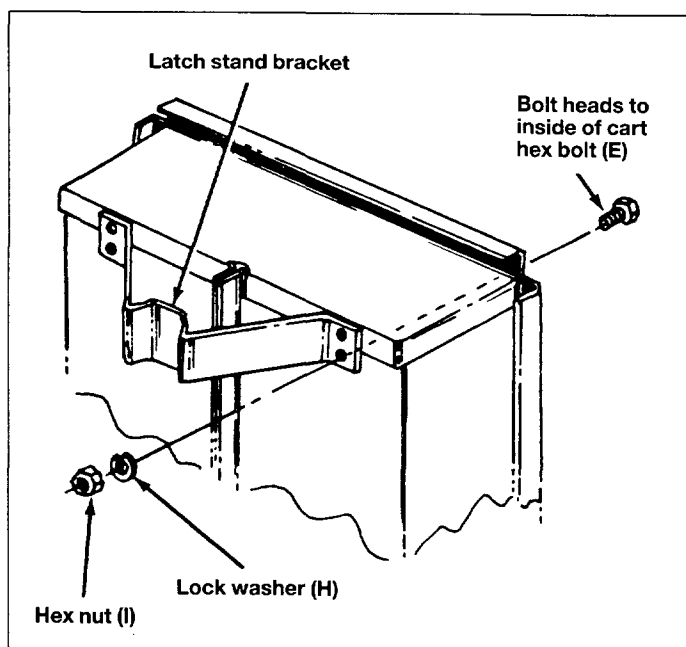

Fig. 9
14. Assemble latch stand bracket using four $1/4" \times 5/8"$ (6 mm $\times$ 16 mm) hex bolts (E), lock washers (H) and hex nuts (I). See figure 9.